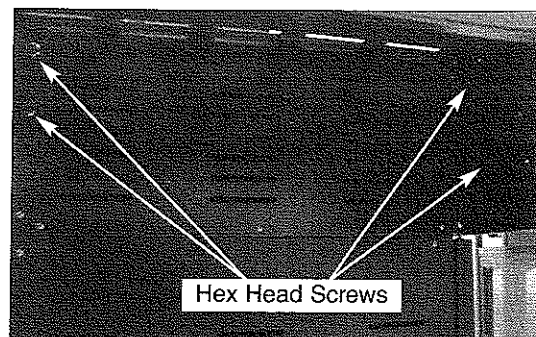

Fig 5
5. Loosen the four (4) hex head screws on the right side of grill head assembly under the side burner shelf for approximate 0.5". Then lift and take off the side burner cart and set aside. (See Fig. 5)